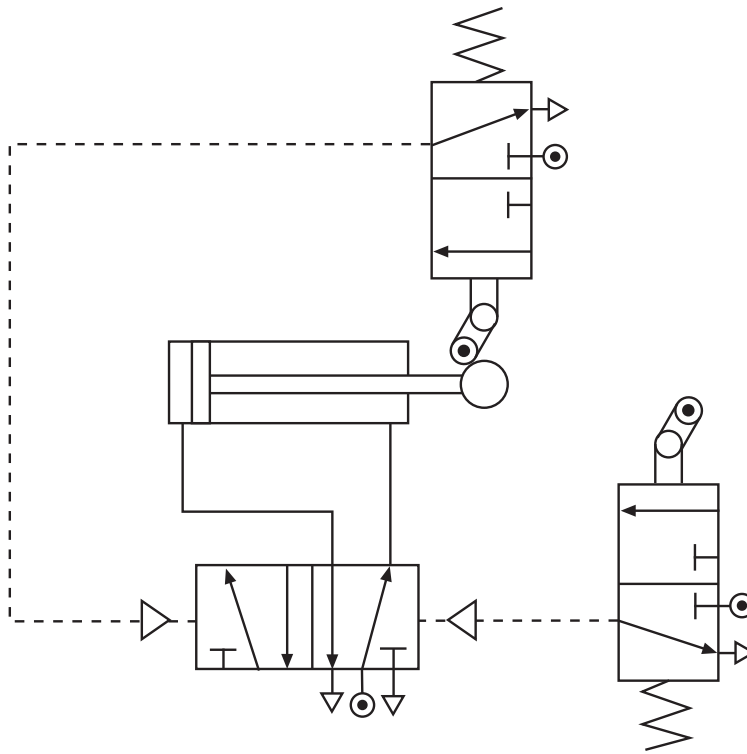

Figure Q4
4. A design for a pneumatic circuit to produce reciprocating motion is shown in Figure Q4.
- (ii) Indicate on Figure Q4 with a cross (X) where this valve should be added to allow the circuit to be stopped with the piston **instroked**.